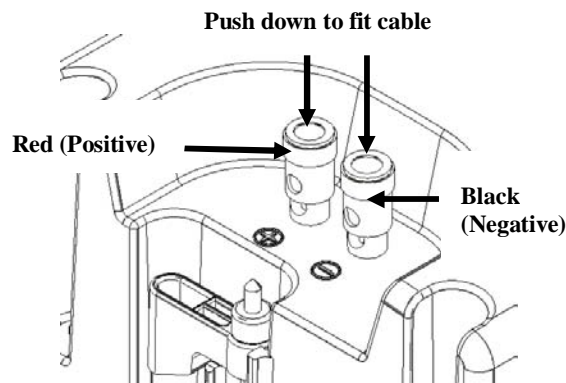

Fig 3
4. Locate speaker cable and connect by pushing the terminals in and releasing to clamp the cables as shown below Fig 3.